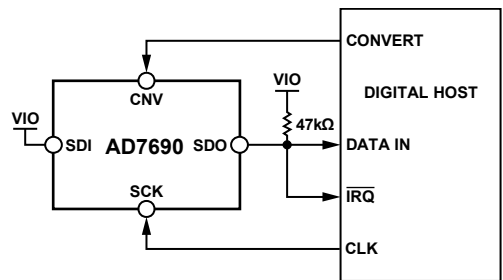
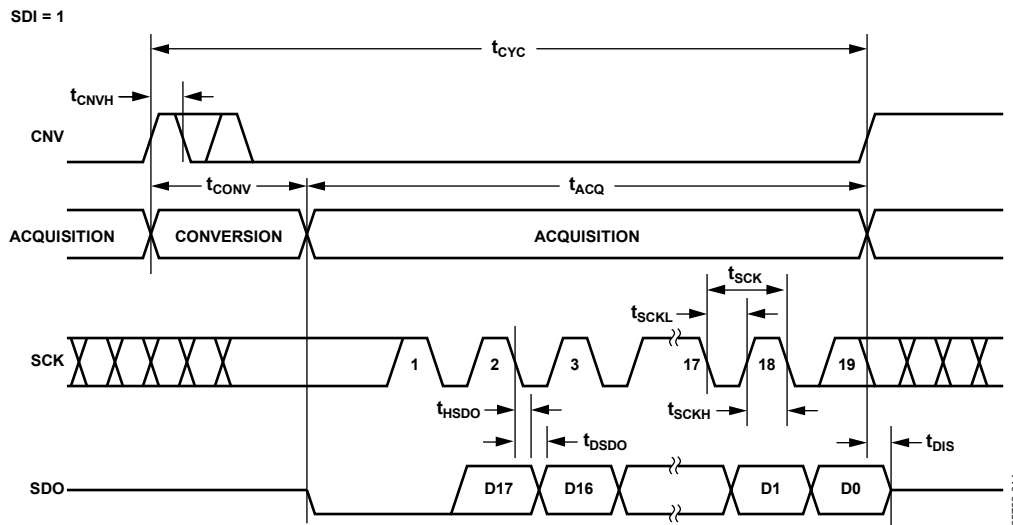
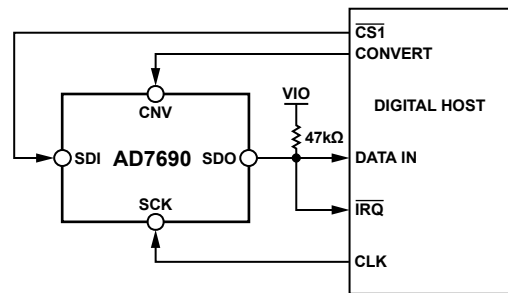
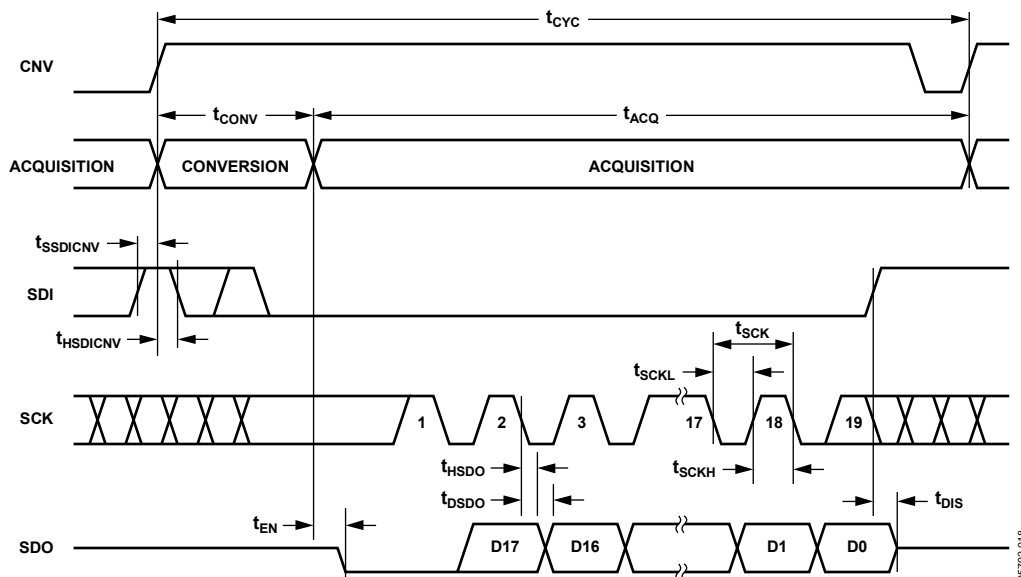

Figure 36. 3-Wire  $\overline{\text{CS}}$  Mode with Busy Indicator Connection Diagram (SDI High)
Figure 37. 3-Wire  $\overline{\text{CS}}$  Mode with Busy Indicator Serial Interface Timing (SDI High)
Figure 40. 4-Wire  $\overline{CS}$  Mode with Busy Indicator Connection Diagram
Figure 41. 4-Wire  $\overline{CS}$  Mode with Busy Indicator Serial Interface Timing
- In  $\overline{CS}$  mode if CNV or SDI is low when the ADC conversion ends (see Figure 37 and Figure 41).
The connection diagram is shown in Figure 36, and the corresponding timing is given in Figure 37.
The connection diagram is shown in Figure 40, and the corresponding timing is given in Figure 41.